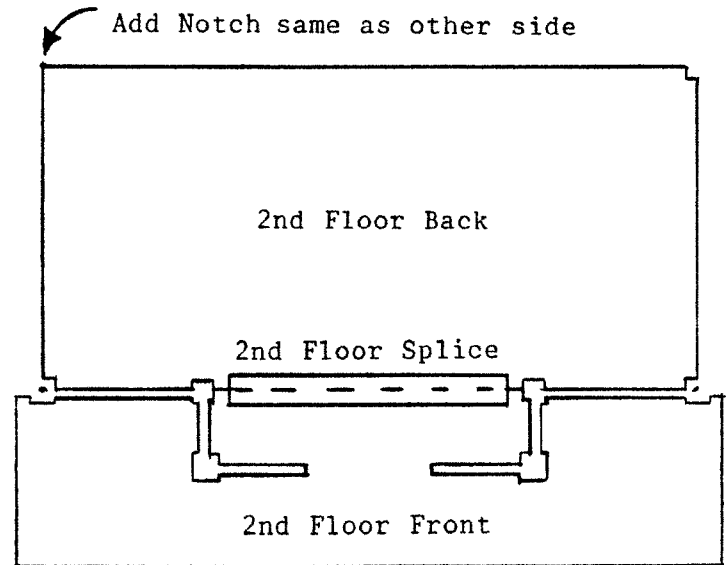

Figure 10
2. Lay the floors facing down on the table. Glue the splice centered as in Figure 10.
3. Add a notch 1/8"x1/4" as indicated in Figure 10.